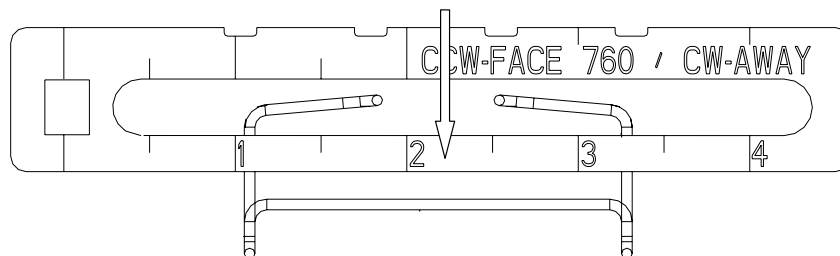

FIGURE 2, Pressing the Feedback Lever into the Retaining Clip (4" arm shown)
1. Orient the feedback lever (text side facing you) and retaining clip as shown in Figure 2. Press the lever into the clip and lift the two hooked ends of the clip until they can be placed in two notches in the lever and hook onto the lever. See Figure 3.